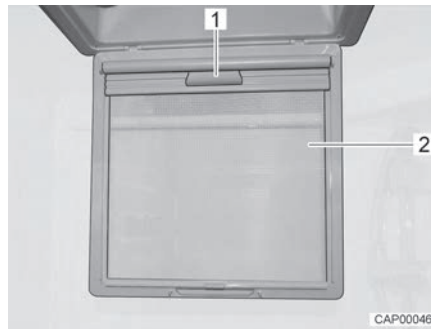

Fig. 51 Blind
- Fold insect screen (Fig. 51,2) downward.
- Pull blind down by the handle (Fig. 51,1) until it engages on the opposite side.
- Release blind at the handle (Fig. 51,1) and return it slowly to its initial position.
- Swing insect screen (Fig. 51,2) upwards until it latches in place.